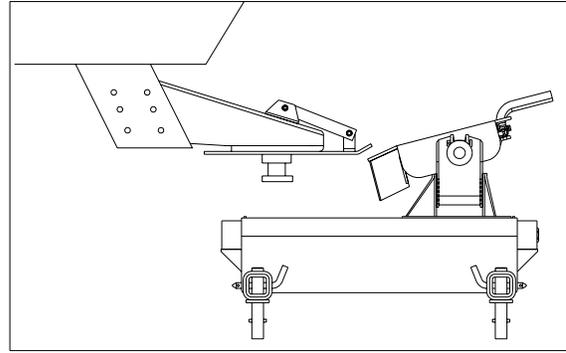

Figure 7
3. Lower your tailgate and back up until there is about 6" of clearance between the SuperGlide hitch and the end of the Trailer Plate {J2}. Raise or lower the front of the trailer so the bottom of the Trailer Plate {J2} is aligned slightly above the beginning of the ramp area of the 5th wheel plate (**Figure 7**). This procedure will cause the front edge of the Trailer Plate {J2} to "ride up" the ramp and flatten or tilt the hitch plate into a parallel position.